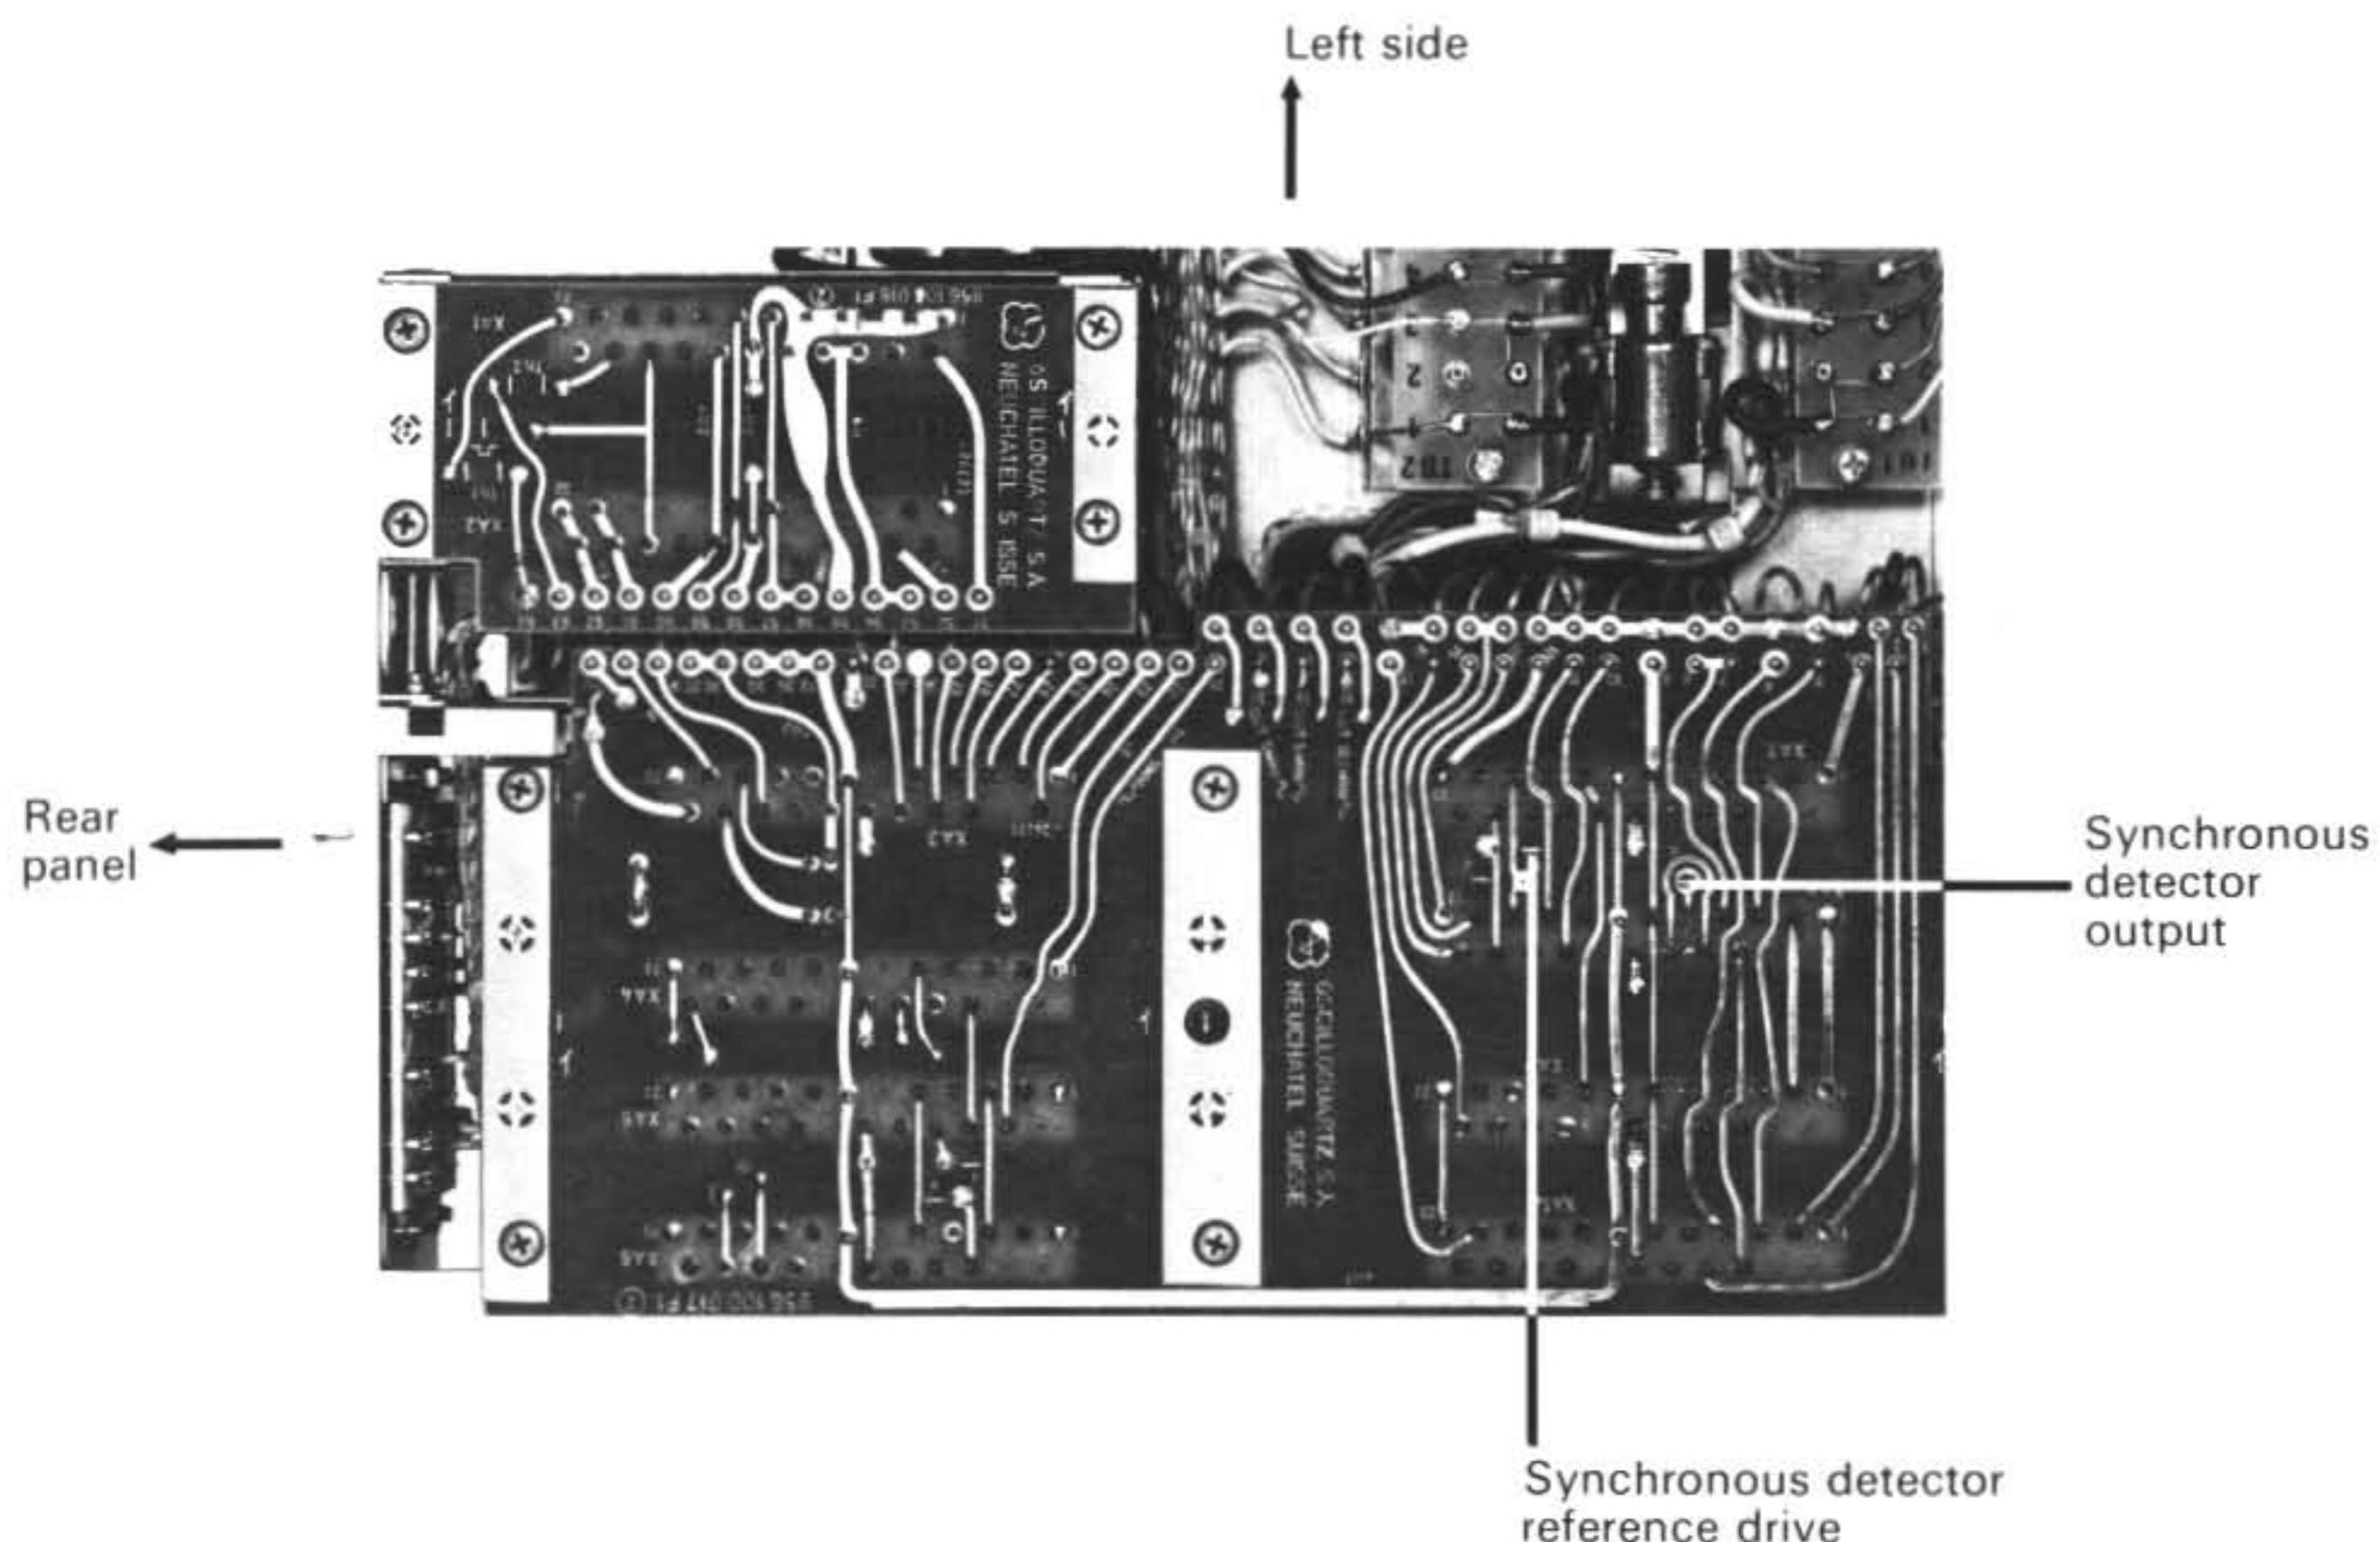

Fig.19 Cesium Frequency Standard, Model 3200 – Circuit cards connecting board (bottom side)
- Connect an oscilloscope to the synchronous detector output and its synchronizing input to the synchronous detector reference drive (fig. 19) with high impedance probes. (Scale setting of 2 V/cm and 2 ms/cm.)